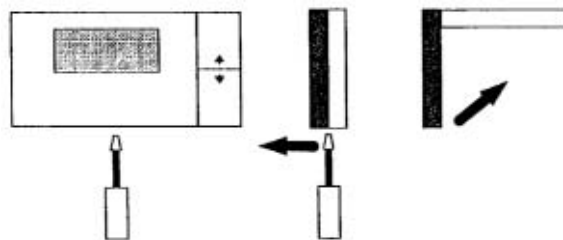

Fig. 3.1
- 1- Separate the front from the back base using a flat screwdriver in the groove in the middle of the bottom side of the card and release the locking tab from its fixture (see Fig. 3.1);